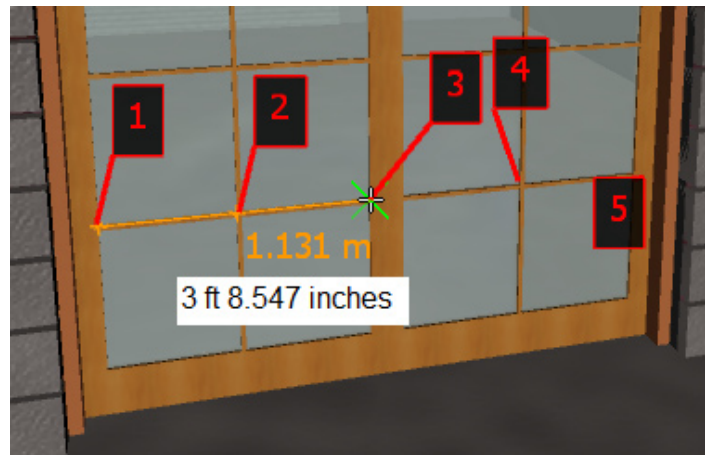

Figure 3-47 Distance calculated between point 1 and 3
4. Again, click on the point 2 and then click on point 3; the calculated distance is displayed in the Scene View, as shown in Figure 3-47.